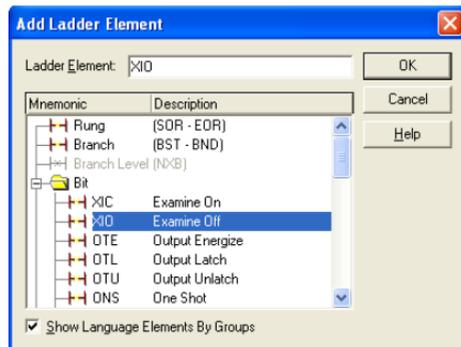

Figure 40: Adding an XIO Element
- c) Select the “XIO” element in the Bit folder. Refer to Figure 40.